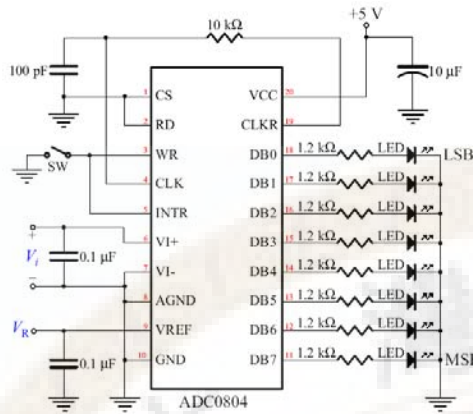
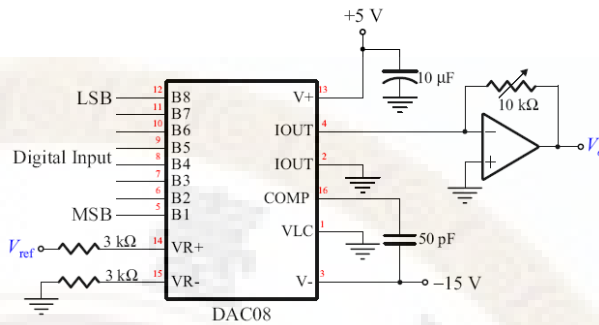

Fig. 1 ADC0804 Testing circuit
Fig. 2 DAC0800 Testing circuit
## 6. Connection of Fig. 1 + Fig. 2
- (1) Connect DB7(MSB) in ADC0804 test circuit to B1(MSB) in DAC0800 test circuit, DB6 to B2 ... ,and DB0(LSB) to B8(LSB), respectively.
- (2) Short the ground in Fig. 1 and Fig. 2 with each other.
- (3) Do not unplug the current limited resistance 1.2 kΩ and the LEDs in ADC0804 testing circuit.
- (4) In Fig. 1, SW open. (i.e., do not connect pin 3 and pin 5 to ground.)
- (5) In Fig. 1, supply voltage  $V_{CC} = +5V$ .
- (6) SW close in a short period (i.e., reset the ADC0804 chip for a second).
- (7) SW open. (i.e., disconnect pin 3 and pin 5 from ground.)
- (8) In Fig. 1, supply voltage  $V_R = +2.5V$ .
- (9) Slowly increase  $V_{in}$  from 0 to 5V just as the LEDs are sparked as the following table. Record  $V_{in}$  and  $V_{out}$  by using the same multimeter and fill up the following table.